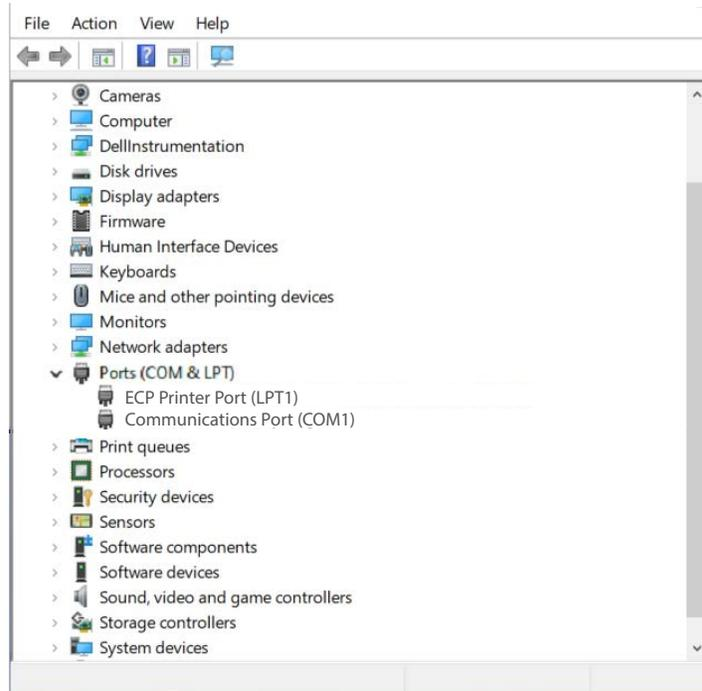

Figure 15. Device Manager
2. Open Device Manager in Control Panel. See Figure 15.